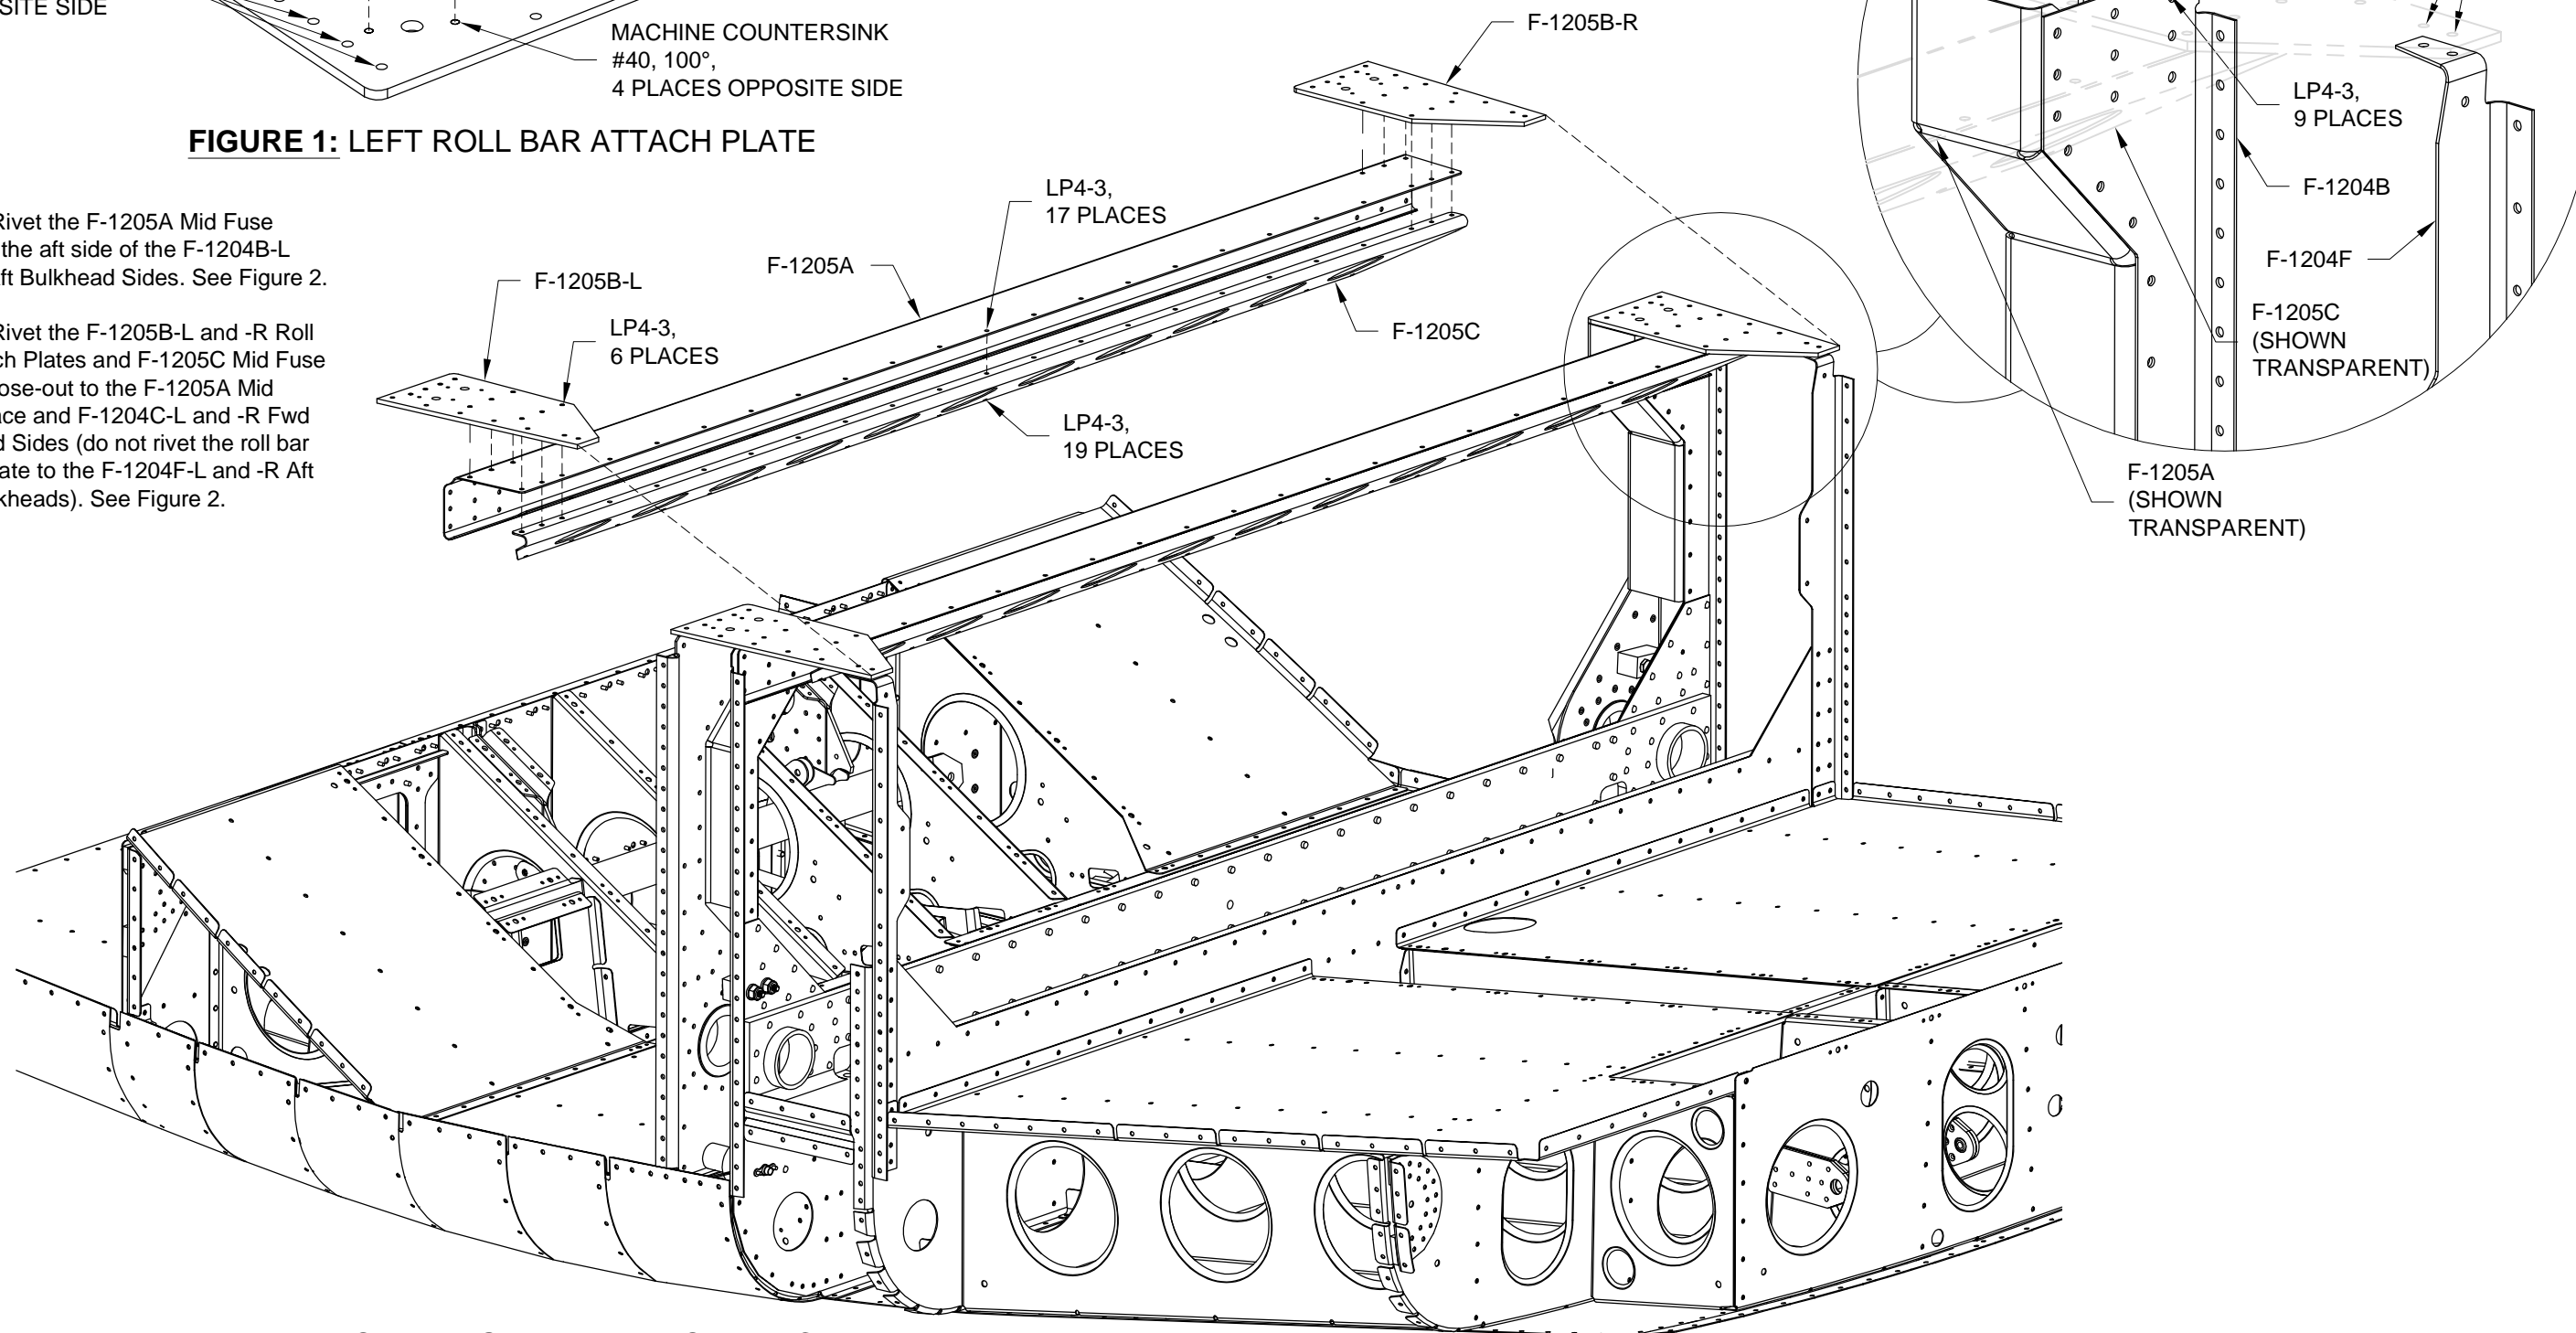

FIGURE 2: INSTALLING THE MID FUSE BRACE
Step 4: Rivet the F-1205B-L and -R Roll Bar Attach Plates and F-1205C Mid Fuse Brace Close-out to the F-1205A Mid Fuse Brace and F-1204C-L and -R Fwd Bulkhead Sides (do not rivet the roll bar attach plate to the F-1204F-L and -R Aft Side Bulkheads). See Figure 2.